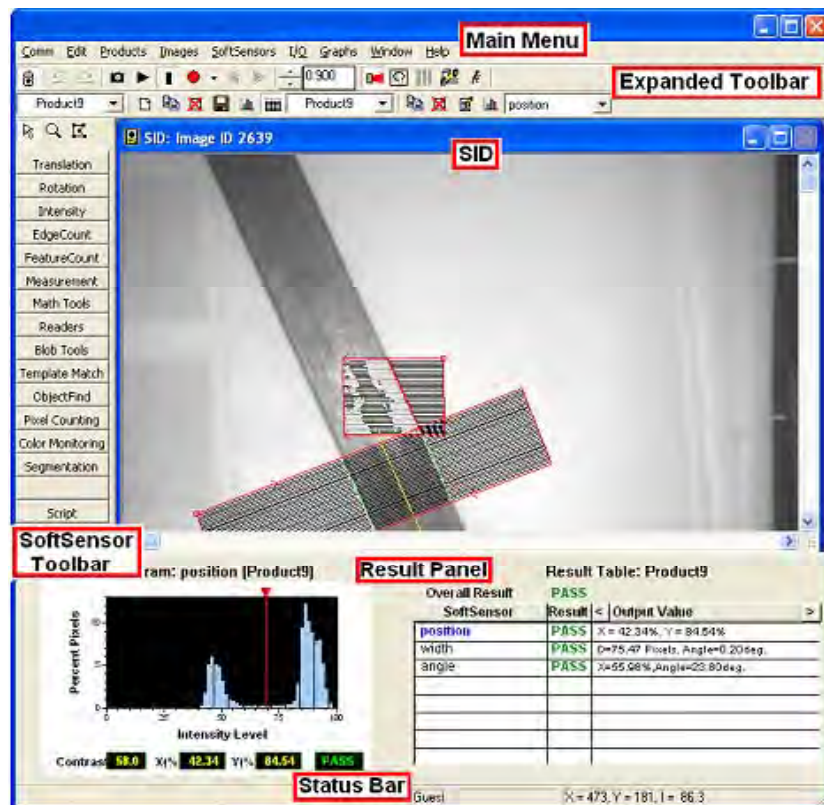

Figure 2-19: screen capture of the user interface highlighting the most important areas
The Spectation User Interface is a Microsoft Windows application used for the configuration of Vision Sensors. The main areas of the interface are the main menu, the expanded toolbar, the SoftSensor toolbar, the SID, the result panel, and the status bar. Figure 2-19 shows a screen capture of the Spectation user interface highlighting these areas.
The result panel is a combination of two elements that have been discussed in this chapter. The result table and the sensor graph for the SoftSensor that is selected from the result table. Figure 2-19 shows three SoftSensors in the result table. The selected SoftSensor is the one highlighted in blue, so the sensor graph to the left of the result table corresponds to this SoftSensor (named position).
- **Instructions section:** this is the left side of the bar. In Figure 2-19 it shows the version of Spectation being used, but when the user selects to create a new SoftSensor, it displays the click-by-click instructions so the user does not need to remember how to draw every SoftSensor.
- **User section:** this section is related to the Vision Sensor administrator, it shows the username under which the current operator is logged on. Figure 2-19 shows "Guest" because no user has logged on.